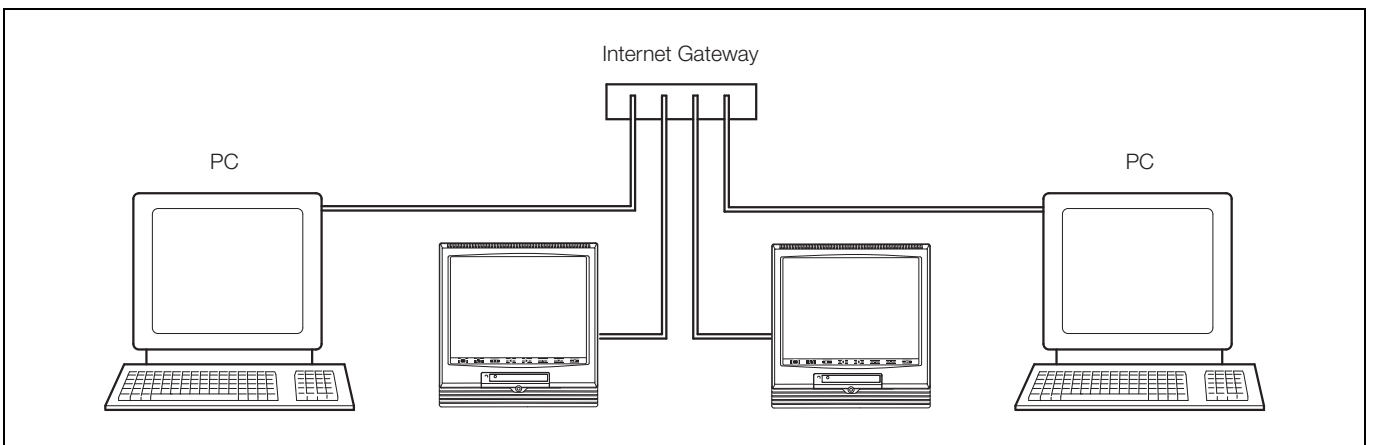

Fig. 7.20 Connection to an Internet Gateway
- Connection to an internet gateway – see Fig. 7.20